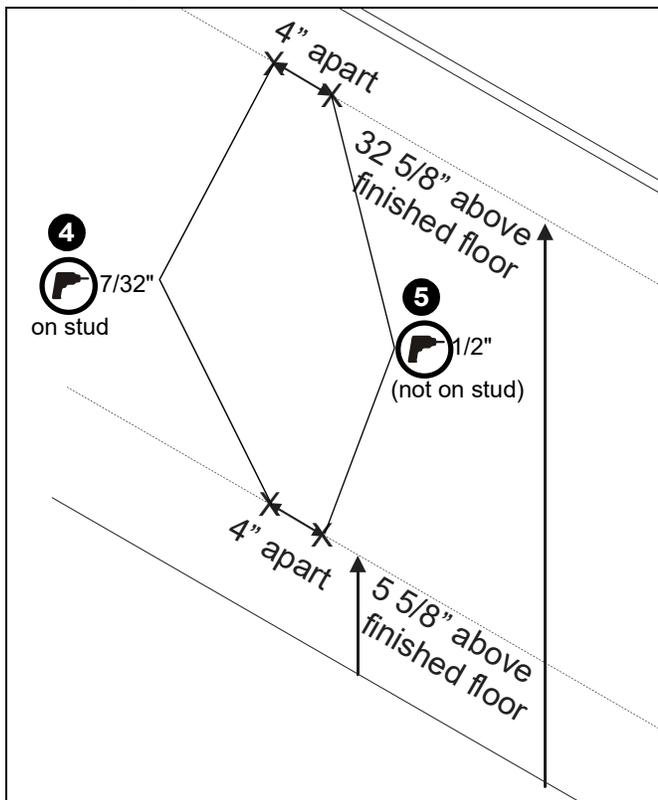

Figure 13
2. Measure 5 5/8" off the finished floor to mark lower mounting locations and 32 5/8" off the finished floor for upper mounting locations with one of the locations being centered on stud. Holes must be 4" apart horizontally. (See Figure 13)
3. Mark hole locations at each mounting location. (See Figure 13)
4. Drill two 7/32" holes at marked hole locations on studs. (See Figure 13)
5. Drill two 1/2" holes on marked hole locations NOT on stud. (See Figure 13)